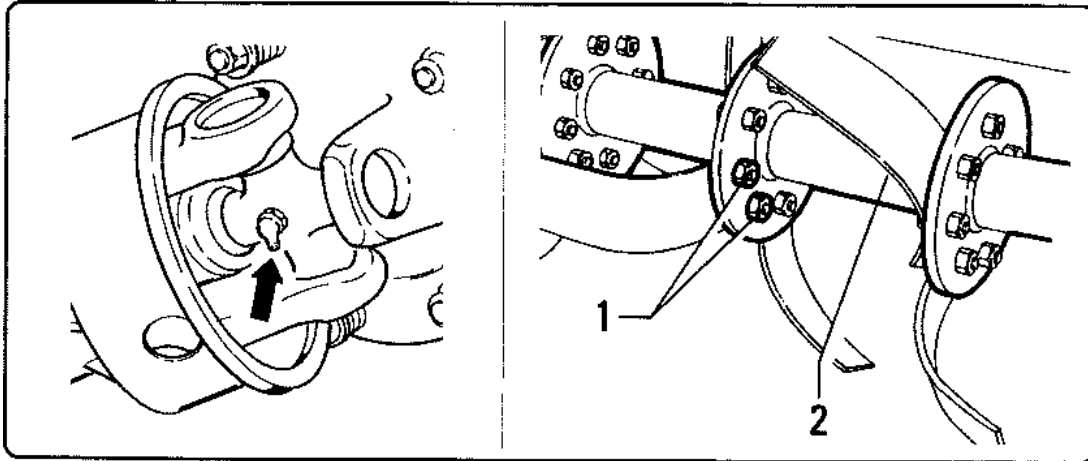

fig. 7.4.2
- Make sure that the driveline is in a perfect condition and grease the spiders(fig. 7.4.2).
- Check that the bolts"1" that lock the blades to rotor "2"(fig.7.4.2) are well tightened.